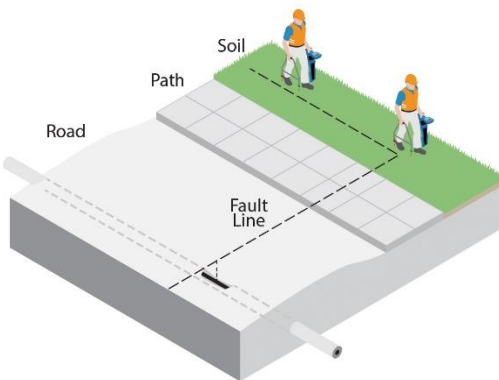

Figure 9.2: Locating faults with the locator and A-frame
Figure 9.2 illustrates a buried line with significant capacitance to ground. It illustrates the gradual phase-shift that occurs along the line. The diagram shows a reference point on each waveform. At first, the reference point occurs right on the Peak of a positive half cycle (A). It gradually moves towards the zero crossing point (D) and ends up on the Peak of a negative half cycle (F). The direction has shifted from forwards to backwards. At the intermediate point (D) the current flow cannot be determined. At this point the CD arrows on the RD8200SG locator will flash on and off. In the example shown in the illustration, by returning to (C) which is the last point at which a CD reading was achieved, and performing a CD reset, the response at (C) will be equivalent to that of (A).